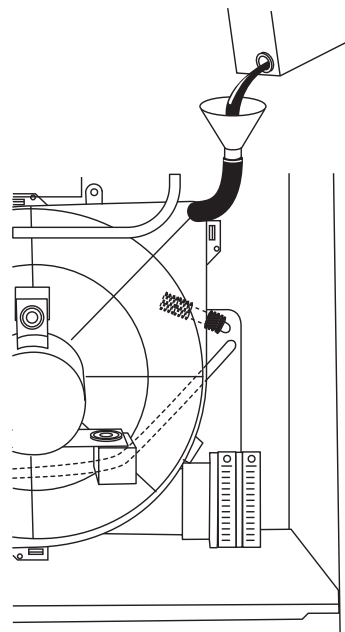

Fig. 19 - Funnel in Drain Tube and Antifreeze Running Through Trap
5. Insert funnel in tube and pour one quart of antifreeze, propylene glycol (RV, swimming pool antifreeze, or equivalent) into funnel/tube until it is visible at point where condensate enters open drain. (See Fig. 19.)